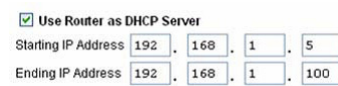

Figure 8 – DHCP Settings
- Select **Register to PMH (ParadoxMyHome)** from the drop-down menu (see **Fig. 8** above).